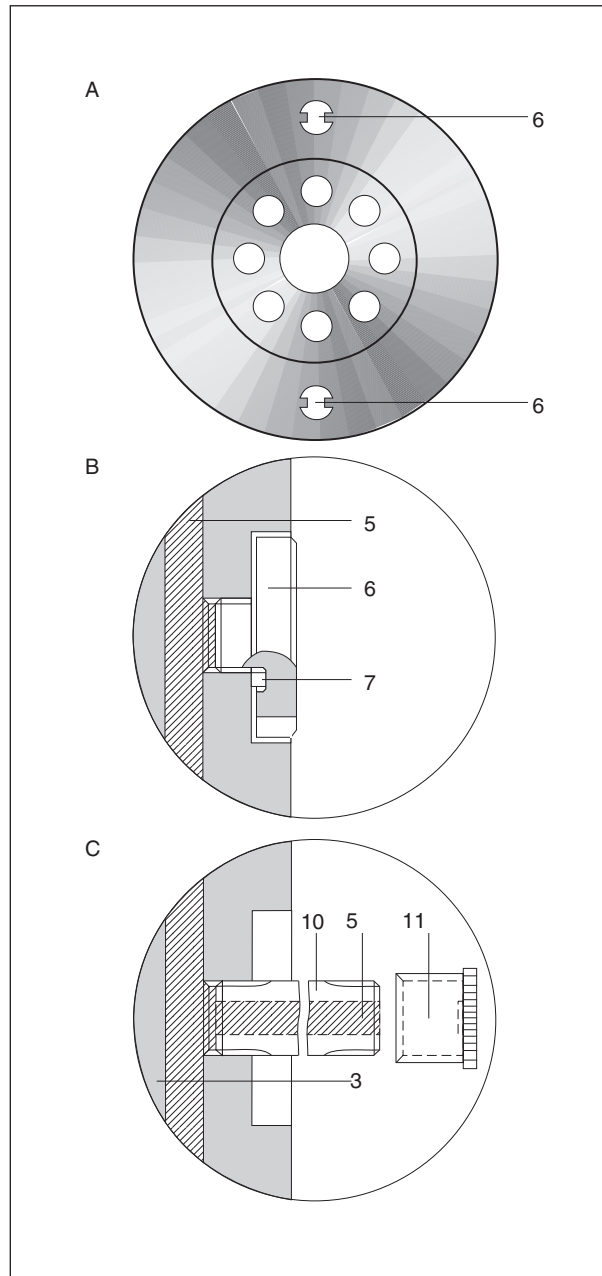

Fig 2. Vibration Damper
3) Rotate the engine in order to bring the extraction plugs (6) of the damper in optimal position, see fig 2 A .
4) Prepare the sample container (10) by removing one of its caps (11), see fig 2 C.